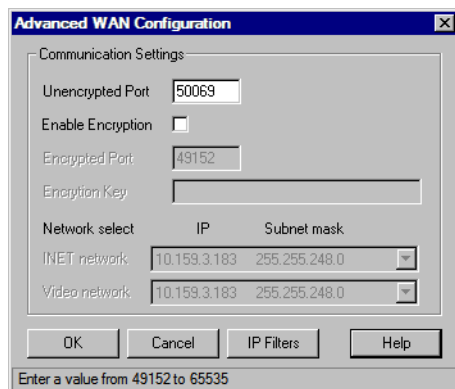

Figure 3-27. Advanced WAN Configuration
1. In the Configuration Profile editor, click **Advanced IP**. The Advanced WAN Configuration editor opens (Figure 3-27).